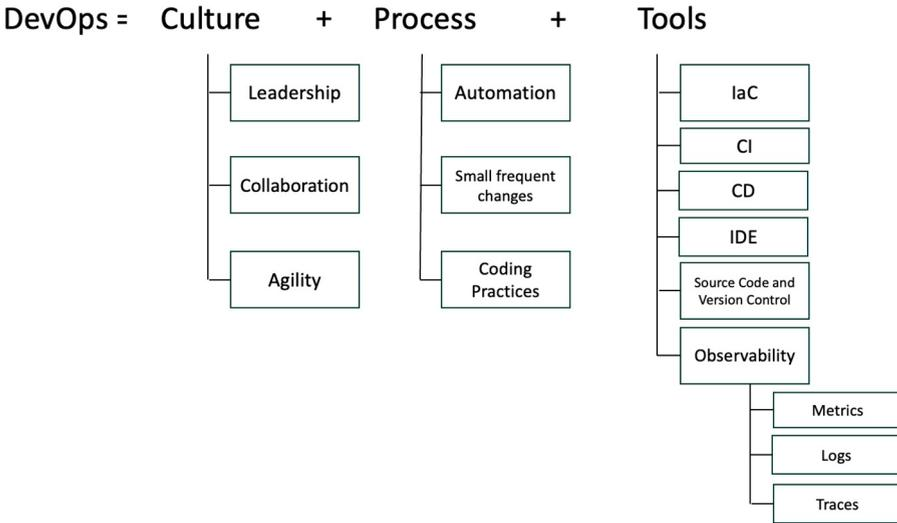

Figure 1-24. DevOps overview
As shown in Figure 1-24, DevOps is all about establishing a culture, driven by processes and enabled by tools. At the heart of the processes is automation, automating the *plan*, *build*, *deploy*, and *operate* phases so that organizations can deliver application changes and new applications faster and with more confidence. At the core of DevOps is CI/CD. *Continuous integration (CI)* involves the integration of various frequent changes from multiple developers into a single main line of code, while *continuous deployment (CD)* pertains to immediate deployment of these changes into production once they are successfully tested. Although both processes can be executed manually, the true value for organizations lies in automation achieved through a set of steps, also known as pipelines. DevOps is about